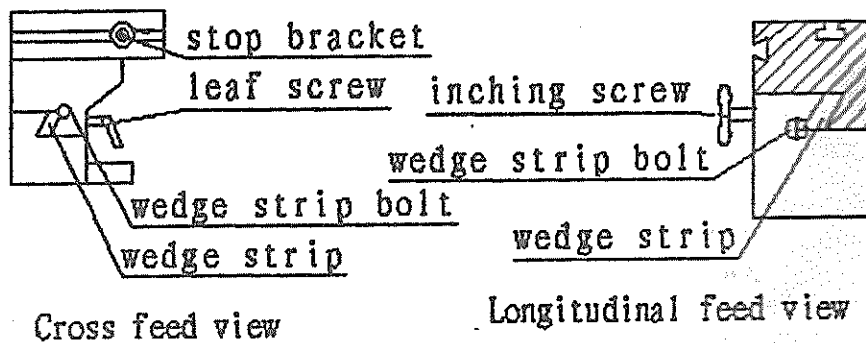

Fig.5
- (3) Adjust the table or depth stop gauge to avoid drilling into the table.
- (4) Shut off the power, knock down the drill bit or cutting tool and clean the table before leaving the machine.
- (5) Caution: when partially uses a clamp or a vise to secure work-piece to keep the work-piece from rotating with the drill bit or cutting tools.
- (6) Warning: For your own safety, don't wear gloves when operating the machine.
10.4 ADJUSTING TABLE SLACK AND COMPENSATE FOR WEAR (See Fig. 5)